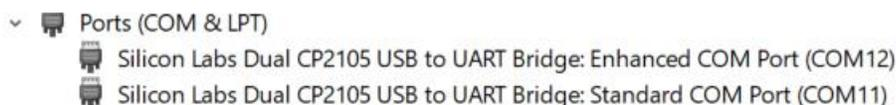

Figure 10
- Confirm driver installation by checking Windows Device Manager. The driver should be listed as shown in *Figure 10*, or similar.